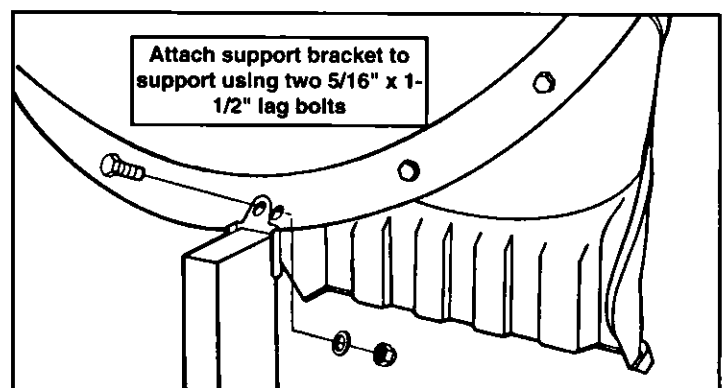

FIG. 12 Attach Support to Slide
5. Place the support beneath the slide and determine its final position by aligning the hole in the bracket with the closest corresponding bolt on the underside of the run-off and section B connection (see Fig. 12). **NOTE: The slide support should fit tightly beneath the slide to assure proper support.**